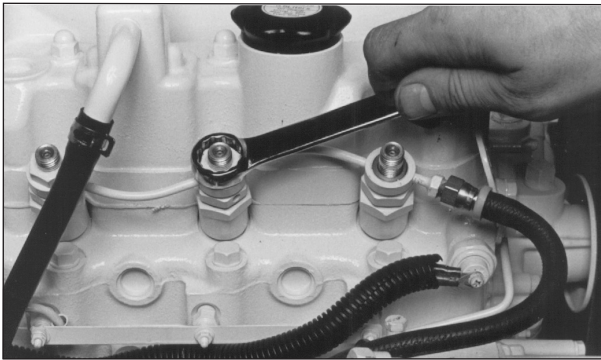

Figure 12: Remove return line nuts.
- b. Relieve high pressure in the fuel lines by loosening the delivery line flare nuts at each injector (Figure 12).